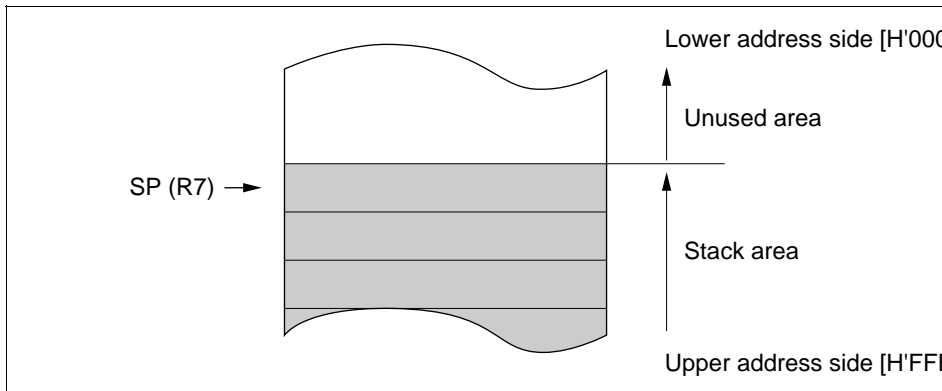

Figure 2.2 Stack Pointer
R7 also functions as the stack pointer (SP), used implicitly by hardware in exception processing and subroutine calls. When it functions as the stack pointer, as indicated in figure 2.2, it points to the top of the stack.